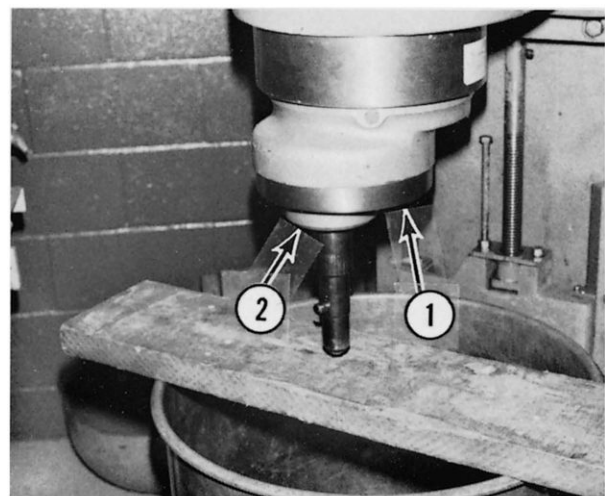

Fig. 10-3
D. If V-1401, remove the bearing plate cover (1, Fig. 10-3).
E. If V-1401, remove the six hex head bolts and remove the bearing plate (2, Fig. 10-3).
G. Raise the bowl to support the weight of the planetary (Fig. 10-3).